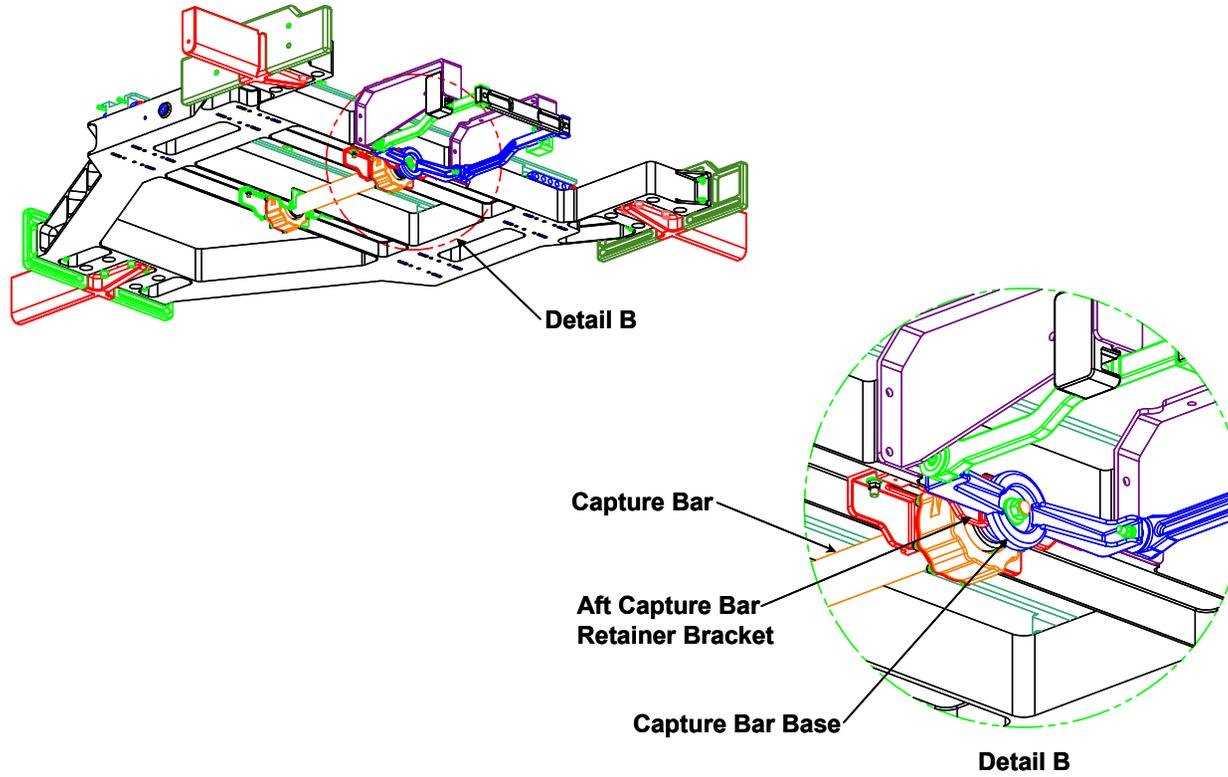

Figure A-4: Capture Bar Installation
1. PRIOR TO TURNING THE LOAD RELEASE SCREWS, THE CAPTURE BAR SHALL BE FULLY MATED AND SUPPORTED BY BOTH BEARING ASSEMBLIES. THE CAPTURE BAR BASE, THE END WITH THE HANDLE, SHALL HAVE SURFACE CONTACT WITH THE AFT CAPTURE BAR RETAINER BRACKET. SEE FIGURE A-4.